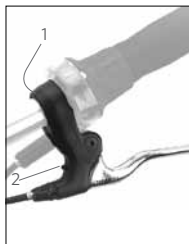
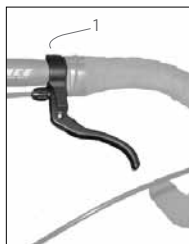

FIGURE 33:
FIGURE 34:
- Mountain lever: for flat or mountain-type handlebar (Figure 33).
- Middle-bar brake lever: for drop-type handlebar (Figure 34). This type of lever is used with a road lever to provide additional hand positions.
1. Find the lever-clamp bolt (Figure 32, Figure 33, or Figure 34).
- Middle-bar lever (Figure 34): 20-30 lb•in (2.3-3.3 N•m).
1. Find the reach-adjustment screw (Figure 33) and turn. To decrease the reach, turn the screw clockwise. To increase the reach, turn the screw counterclockwise.